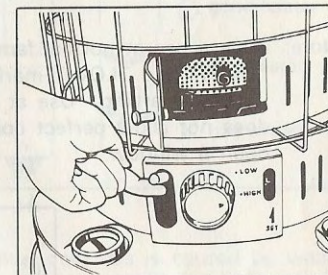

Fig. 13
- (3) Push ignition lever up and hold until wick is lit about 2 – 5 seconds (Fig.13).